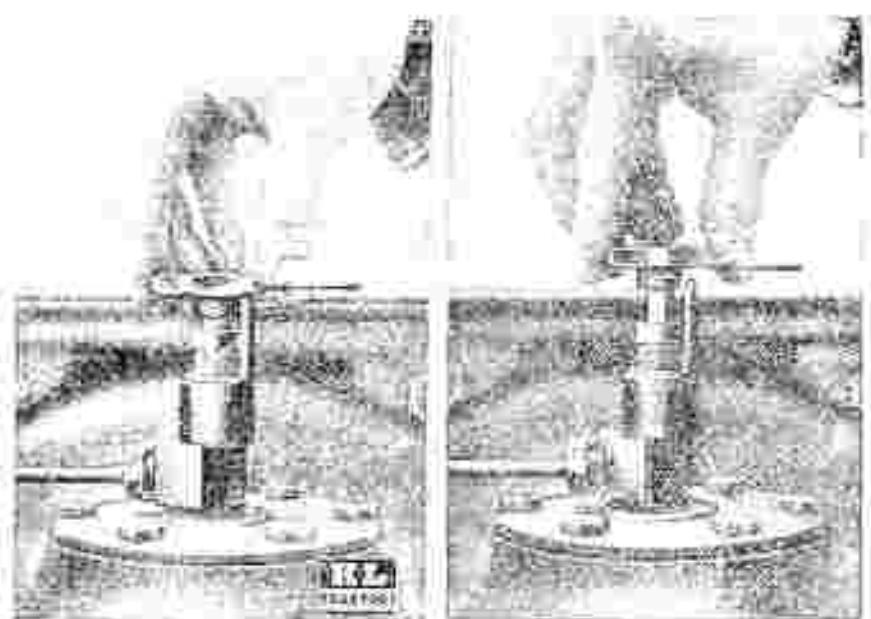
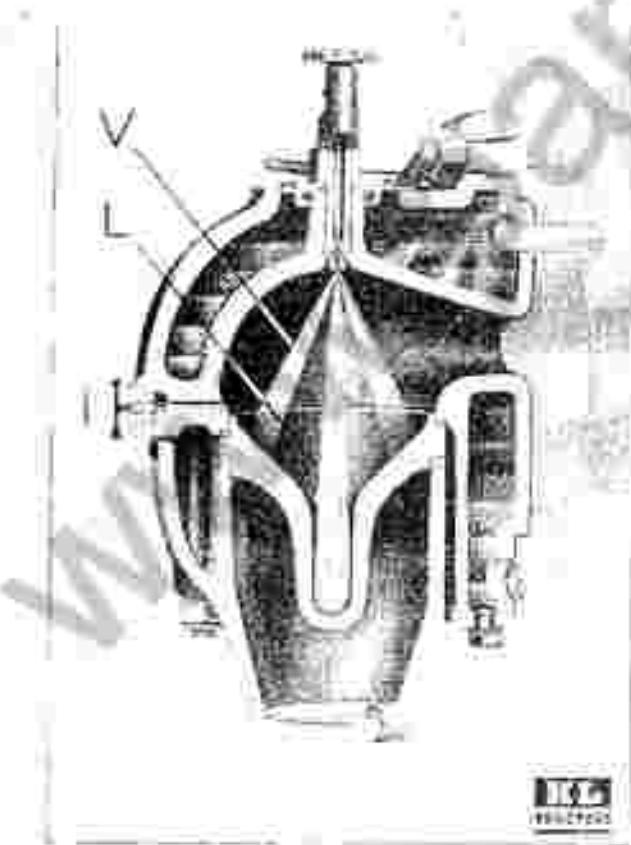

Fig. 42. Position of spindle.
Fig. 45. Fuel spray.
The Atomizer, Fig. 41, must be handled carefully, special attention being paid to nozzle (8), and grooves at the end of spindle (2) which are carefully ground at the factory. The fuel spray for various loads is regulated by screwing the spindle up or down, Fig. 42, according to requirements, but this adjustment does not alter the quantity of fuel injected, only increasing or decreasing the degree and angle of atomization, with which the fuel is sprayed on the heating plate or into the pocket of the bulb, Fig. 45.
When spindle is screwed right down, Fig. 41, to stop (14), this is full load position, and "turns up" are counted from this position, Fig. 42. Above settings are only approximate. Do not apply force when screwing spindle down for full load and return slightly when it reaches the bottom. Adjustment should be carried out immediately after stopping the tractor or any change of load. If the atomizer spindle is unscrewed too far on a heavy load, the bulb will become over heated, and irregular running will result, the engine will knock and pull badly. If it is screwed in too far on a light load, misfiring and smoking from the exhaust will result and perhaps ignition will cease altogether.